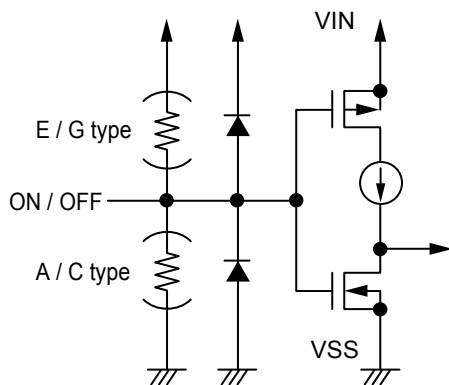

Figure 21
The ON / OFF pin is configured as shown in **Figures 21** and **22**. In the S-1135 Series A / C / E / G type, the ON / OFF pin is internally pulled up to the VIN pin or pulled down to the VSS pin in the floating status, so the VOUT pin is set to the V_{SS} level. In the S-1135 Series B / D / F / H type, the ON / OFF pin is not internally pulled up or pulled down, so do not use the ON / OFF pin in the floating status. When not using the ON / OFF pin, connect it to the VIN pin in the product B / D type, and connect it to the VSS pin in the F / H type.
*1. Note that the IC's current consumption increases as much as current flows into the pull-up / pull-down resistor when; the ON / OFF pin is connected to the VIN pin in the A / C type, the ON / OFF pin is connected to the VSS pin in the E / G type (Refer to **Figure 21**).